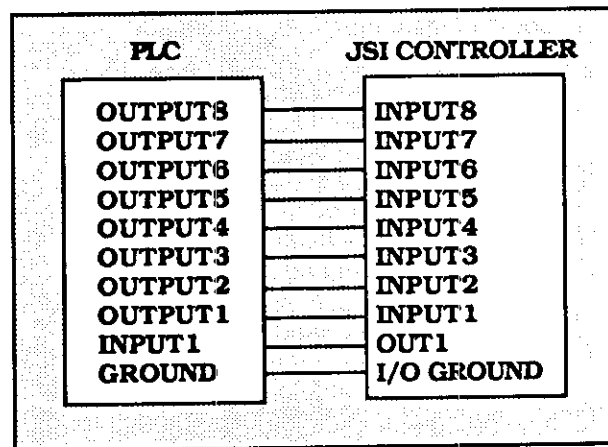

Figure 4-4. PLC Connection
You may daisy chain up to 16 JSI controllers. Individual drive addresses are set with the JSI's push buttons. When daisy-chained, the units may be addressed individually or simultaneously. You should establish a unique device address for each JSI. Refer to Figure 4-4 for JSI daisy chain wiring information.
**Step 5** Assuming your PLC accepts open-collector outputs connect the inputs and outputs as shown in Figure 4-4. If not, you will need to add pull up resistors to the outputs.